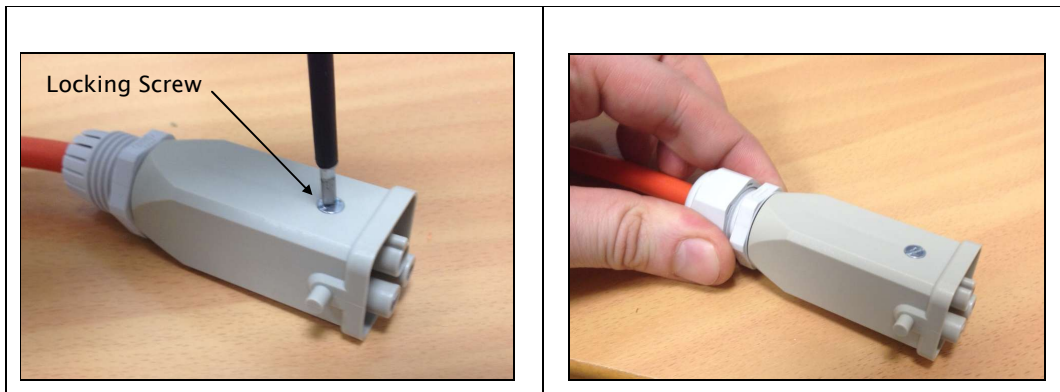

Figure 4.2.5: Harting Han® Q2/0 connector – fully assembled
8. Push the insert into the connector housing and tighten the locking screw to a torque of 0.5Nm (refer to figure 4.2.5).
9. Tighten the cable gland nut as shown in figure 4.2.5 and confirm the cable is secure.